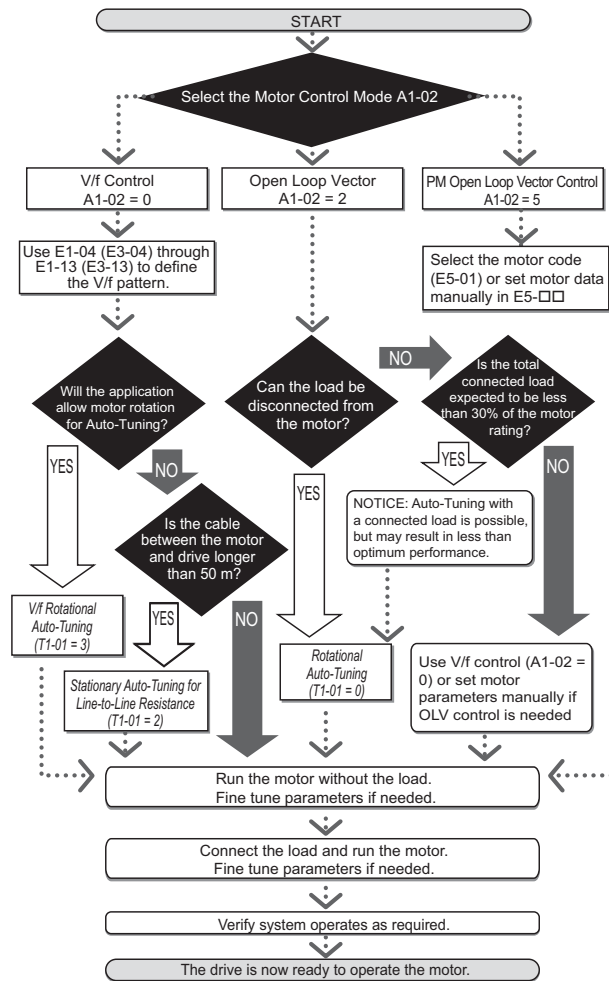

Figure 4.11 Auto-Tuning Selection
2. Determine which type of Auto-Tuning best fits the application requirements following *Figure 4.11*.